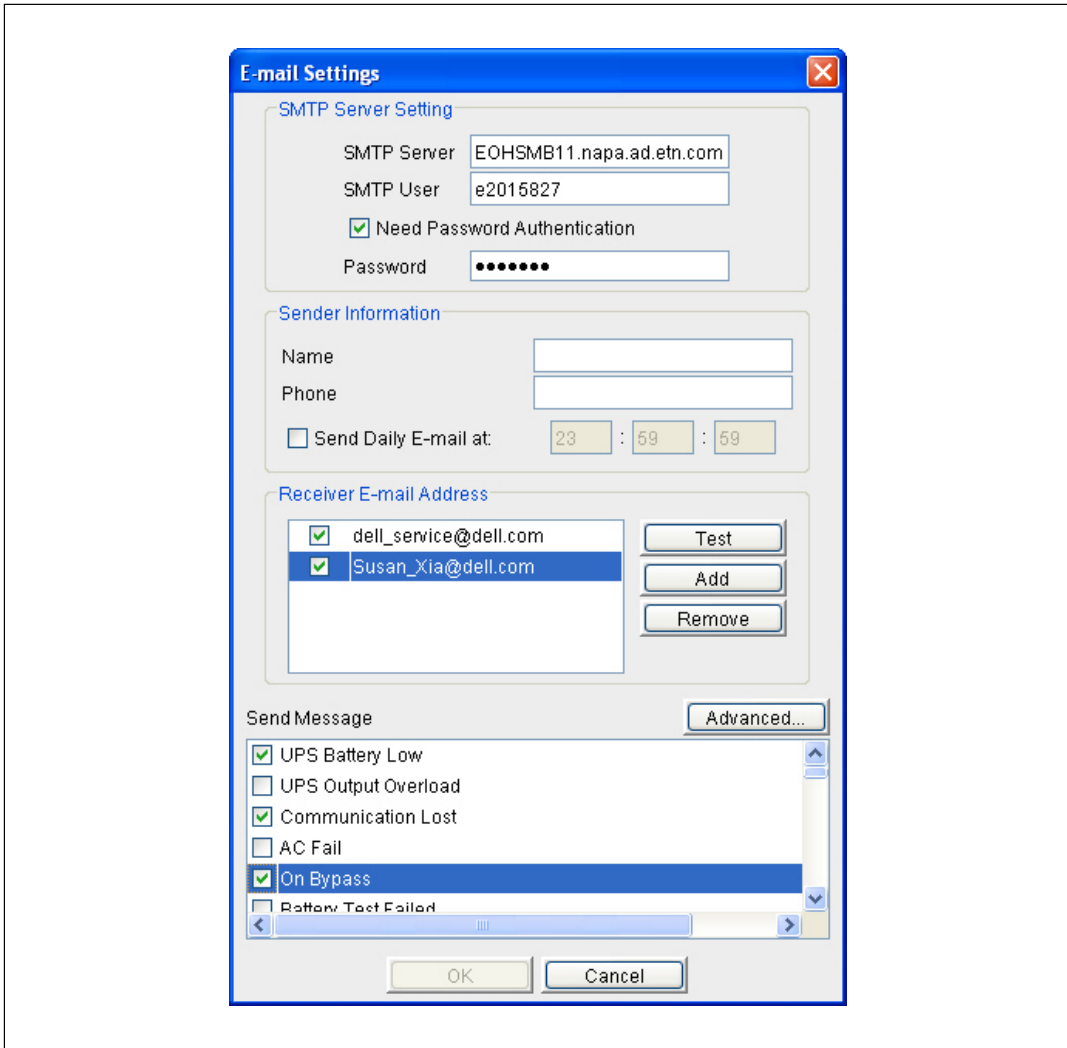

Figure 54. E-Mail Recipient and Message Selection
- 7 Verify that one or more recipient e-mail addresses are selected, and then select the event messages to be sent by selecting the message check box (see Figure 54).